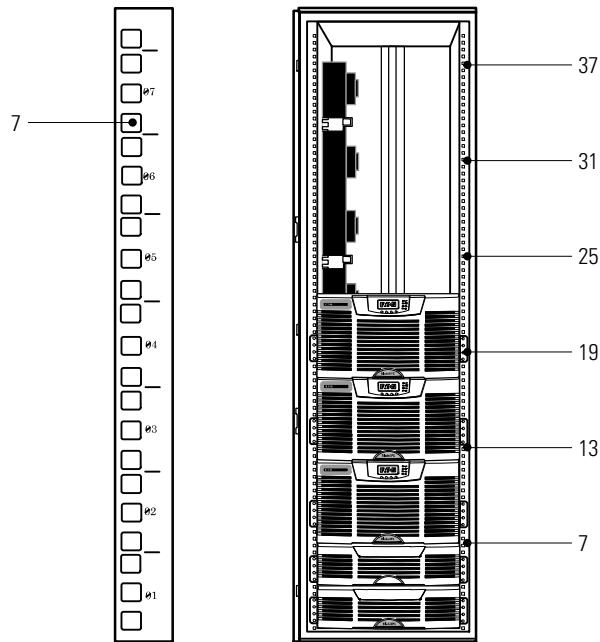

Figure 3. Recommended Rail Locations (Example Configuration)
8. Plan where each cabinet will be located in the rack and determine the “U” marks to use for mounting the rails. For example, for a rack containing six UPSs and a bottom wireway, plan to mount the bottom of the rails at the following marks (see Figure 3):
NOTE Recommended rail locations are for example only. Adjust the locations as needed for your system's configuration. Allow for hole spacing and numbering (see Figure 3). For guidelines for configuring a parallel system with EBMs, see page 3.